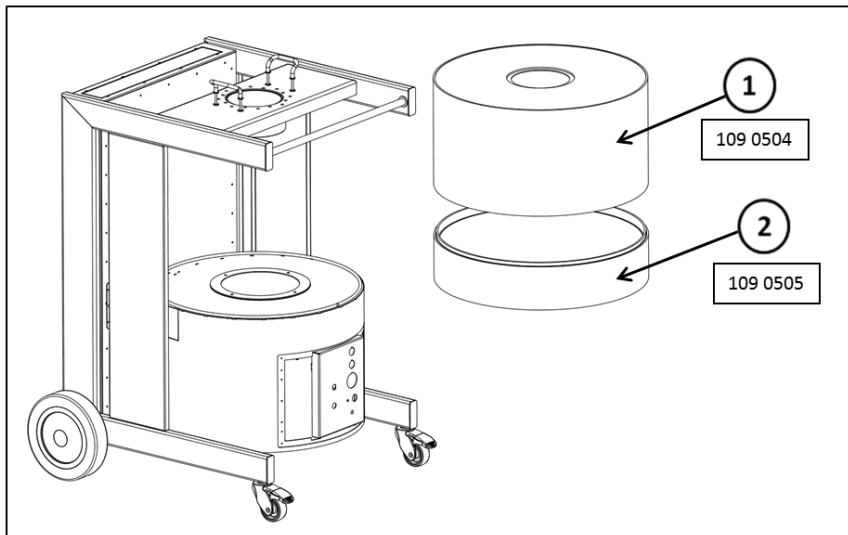

Figure 1, filter types in the MaxiFil AK
- See Figure 1 for the sequence in which the filter elements should be positioned.